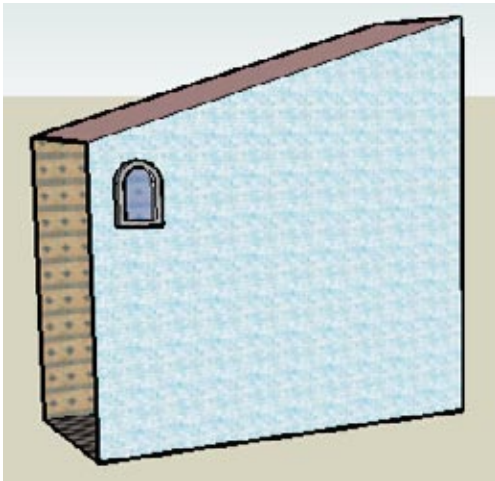

Figure 1-35
1. Start with a building like the one shown in Figure 1-35, with a sloped top and one window in the top-left corner of the front wall. You can create your model from scratch, or download my Sloped Linear Array model from the 3D Warehouse. The window should be a component.